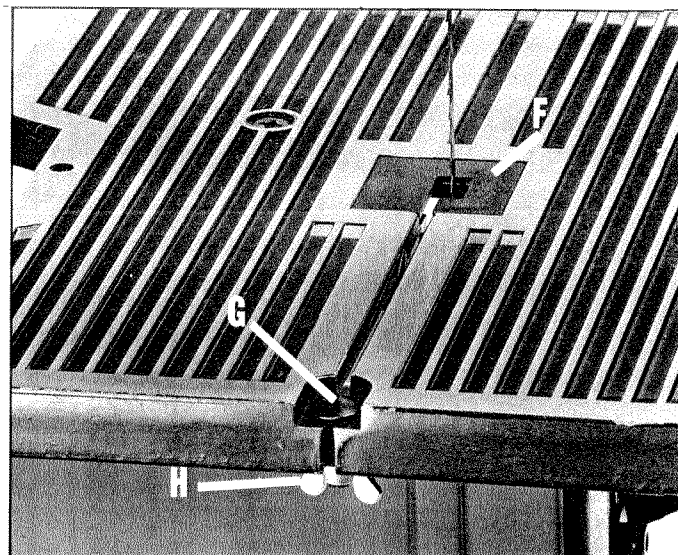

Fig. 5
1. Place the table insert (F) on the table, as shown in Fig. 5, and assemble the table alignment screw (G), washer and wing nut (H) to the table. The washer and wing nut (H) are positioned below the table.